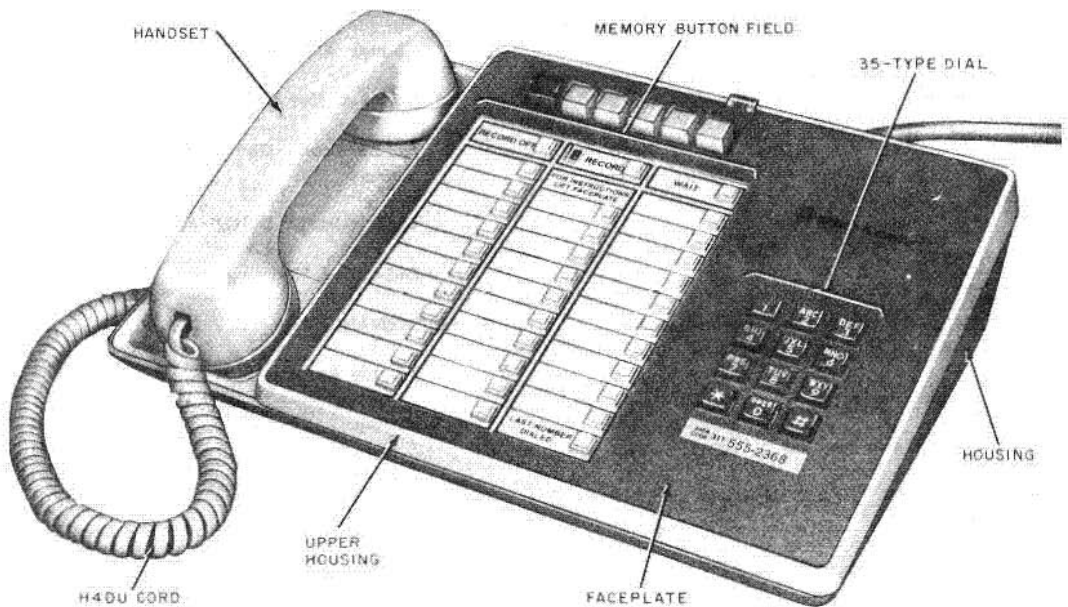

Fig. 1—2872A1M (MD) or 2872A2M Telephone Set
1.01 This section contains identification, installation, connections, operation, and maintenance information on the 2872A1M (MD) or 2872A2M telephone set (TOUCH-A-MATIC service) (Fig. 1).
- Show 2872A1M telephone set (MD)
- Revise Fig. 1 through 5, 7 through 12, and 14